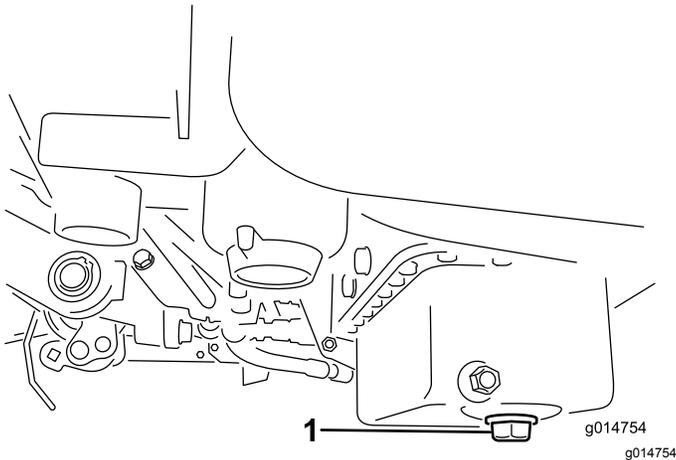

Figure 45
1. Remove the drain plug and let oil flow into a drain pan. When the oil stops, install the drain plug (Figure 45).